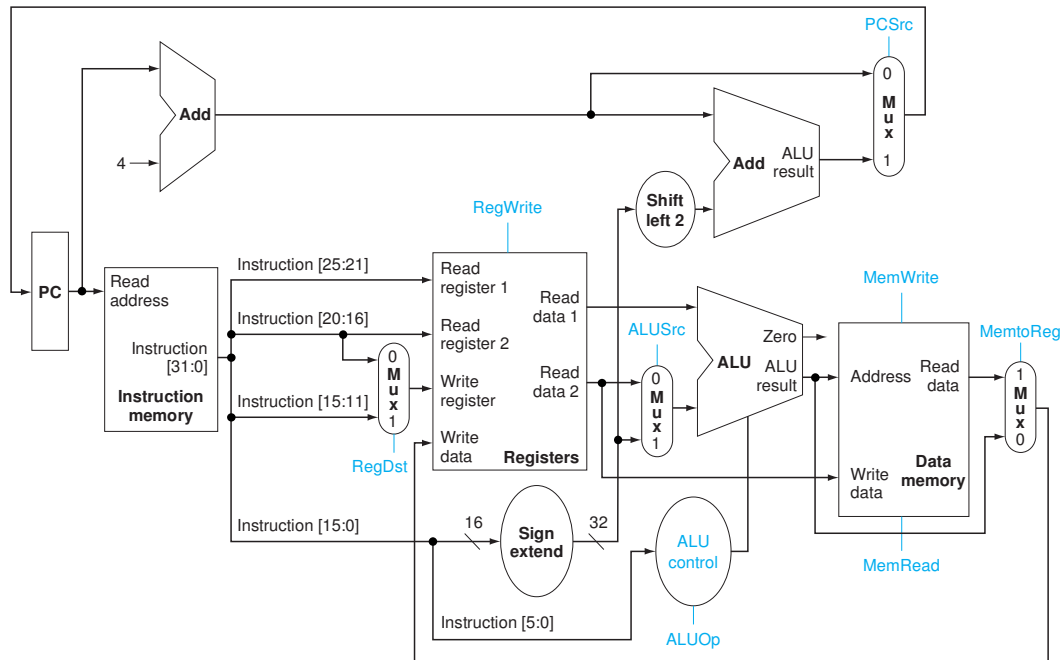

Fig. 2: ALU Datapath
9. How would you extend the datapath in Figure 2 to implement the SLL and SRL instructions? **Note:** The ALU needs the first port to contain the value to shift and the second to contain the amount to shift. Pay special attention to the data path for these values.